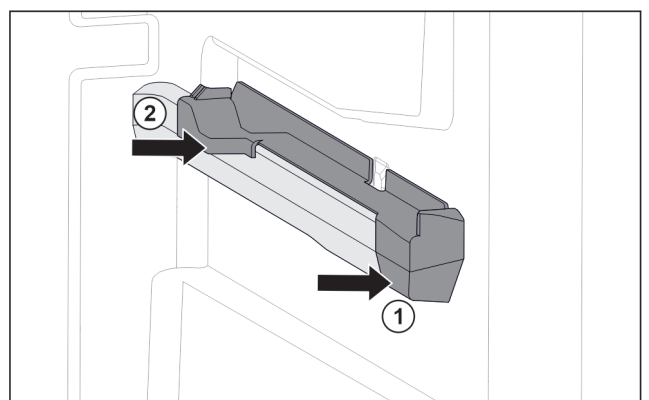

Fig. 28 Attachment on the right molded rib
- ▶ Position attachment on molded rib at the front. Fig. 28 (1)
- ▶ Press on attachment at the back. Fig. 28 (2)